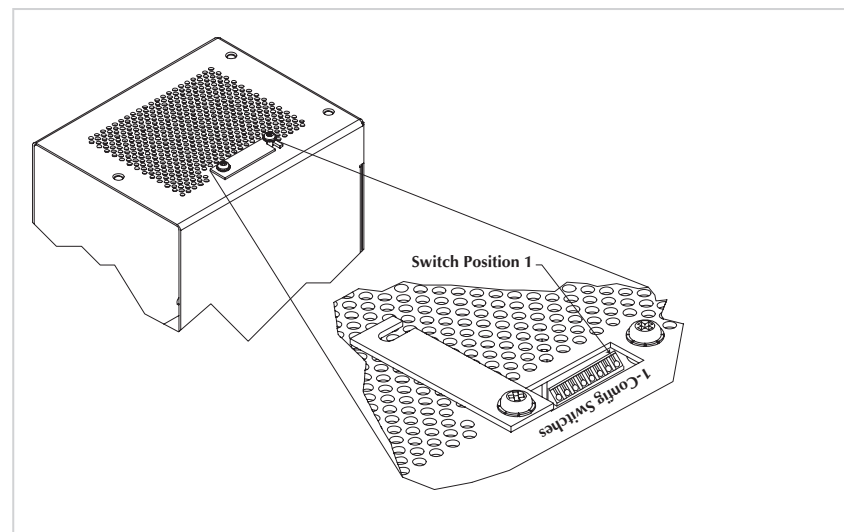

Figure 4: Enclosure Top View Configuration Switches
The SIBTF10xx-1xx-Mx has eight (8) configuration (DIP) switches located under the switch cover on top of the enclosure. See Figure 4.